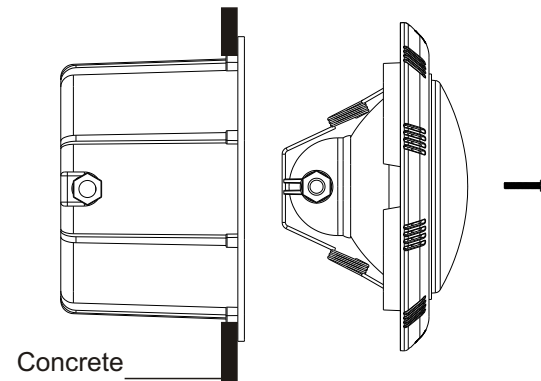

Figure 2.
3. If pool surface is to be plastered, you must allow proper concrete cutback for plaster thickness. Finish concrete surface must be flush with Mounting Spacer. **CAUTION:** Finish area surrounding Mounting Spacer **MUST** be flat and flush with the face of Mounting Spacer, this ensures a snug fit between light and wall, see Figure 2.
10. Rotating Locking System ensures light is secured to bracket, see Figure 2.